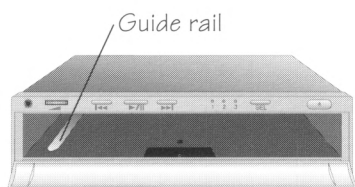

Fig. 11: CD-ROM drive (open)
2. Orient the 3-disc magazine according to the instructions on its top side. (The arrow is on top, the open end of the magazine goes into the drive first, and the groove on the bottom of the magazine glides on the guide rail. See Figure 11.)